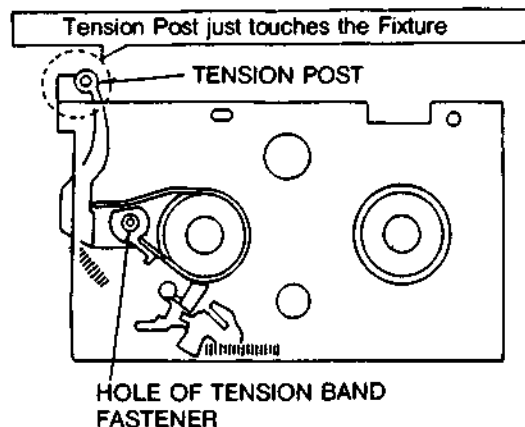

Fig. 2-3
- Place the adjustment plate and insert the hex wrench into the hole of tension band fastener pos. no. 11(1), as shown in Fig. 2-3.